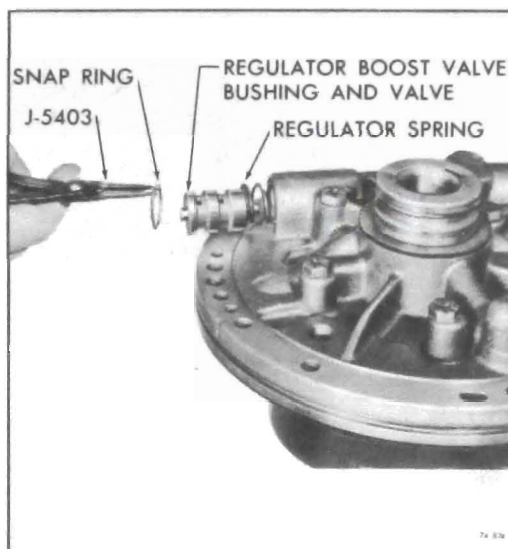

Figure 76-615
2. Compress the regulator boost valve bushing against the pressure regulator spring and remove the snap ring using J-5403 pliers. See Figure 76-615.